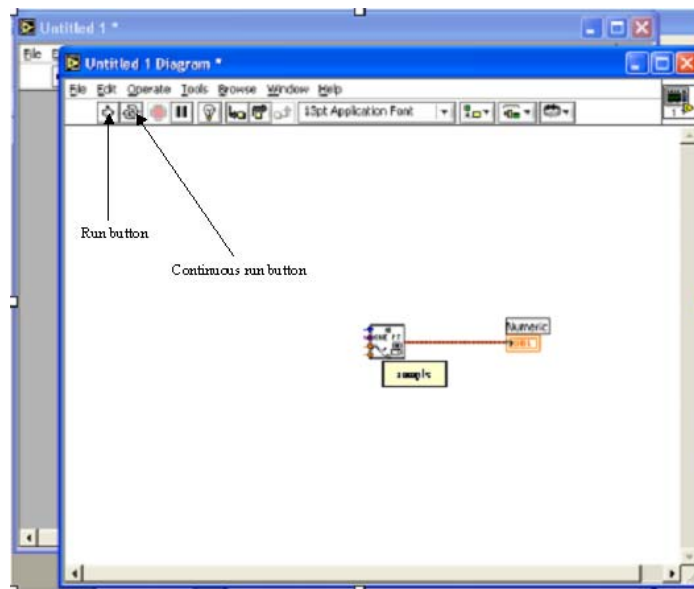

Figure 2.3.28. Wiring the Analog Input vi to the indicator.
4. Drag the **AI Sample Channel.vi** icon to the white **Diagram Panel**. This vi (virtual instrument) is a subroutine that takes in external voltages. Now with the cursor somewhere on the white Diagram panel, hit the Tab button until your cursor is a spool of wire (the “wiring tool”), and then move the wiring tool over the **AI Sample Channel.vi** until the **Sample** terminal flashes, then wire the **Sample** terminal to the **Numeric Indicator** (click on one, and then the other) as in Figure 2.3.28. If you make a mistake at any point, you can undo the action using Ctrl-Z.
5. Go back to the gray **Front Panel** by either clicking on the gray window, or selecting Show Panel on the Window menu (or pressing Ctrl E), and then press the **Continuous Run** button indicated in Figure 2.3.28. Turn on the power supply and turn the voltage knob up and down, and you should see the voltage on the **Numeric Indicator** change. If you have a broken **Run** button, or a dashed line where the wire should be, this probably means you didn't wire the items correctly.